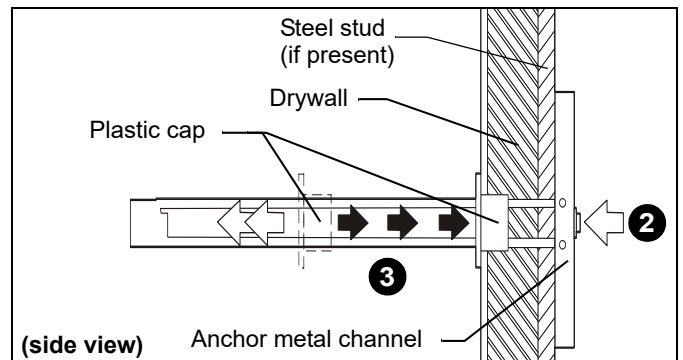

Figure 25
2. Holding plastic straps on anchor, pull anchor away from wall until channel rests flush behind wall making sure anchor channel is positioned vertically on drywall, or steel stud (if present). (See Figure 25)
3. Slide plastic cap on anchor towards wall until flange of cap is flush with wall. (See Figure 25)